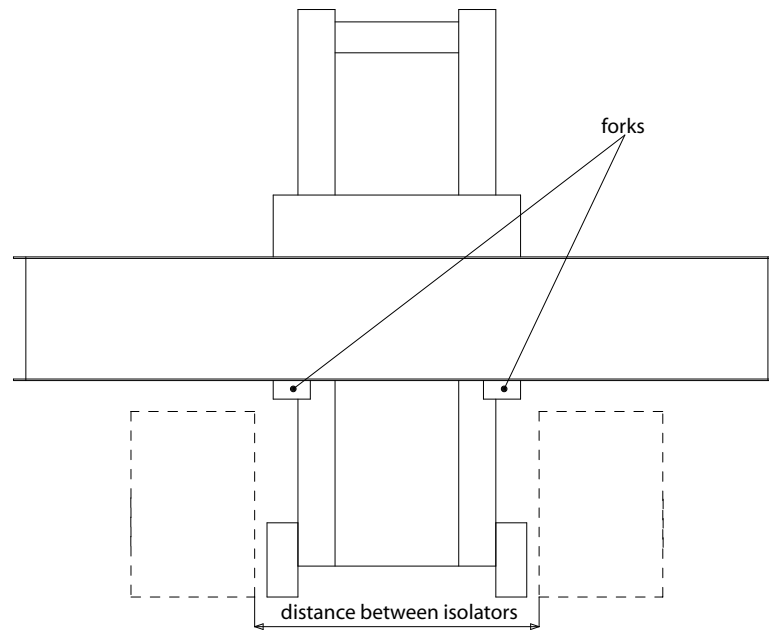

Fig. 3.6 Distance between forks
- 2) Raise the table on a fork-lift truck, ensuring that the fork distance is set such that the forks can pass between the isolators when the table is lowered into position – See Fig. 3.6.